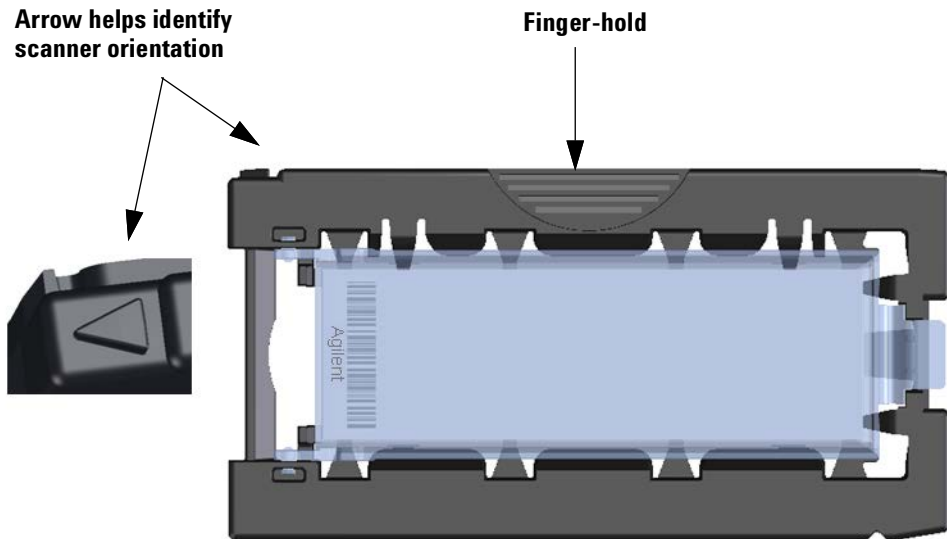

Figure 27 Slide holder helps you to insert slides correctly
- 3 Pick up the slide holder using the finger hold. The arrow on top of the slide holder points to the left when you pick up the slide holder correctly. See Figure 27.